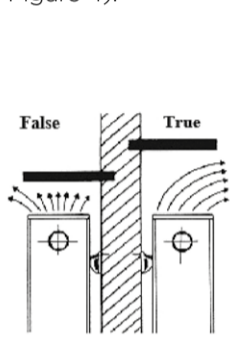

Figure 4: Diagram of radiator installed next to the window.
- In cases where the distance between the upper side of radiator and the window side is too narrow (less than 90% of the depth for radiators in length of 500 mm and less than 75% of the depth for radiators in length of 300 mm), heat efficiency of radiators reduces (see Figure 4).